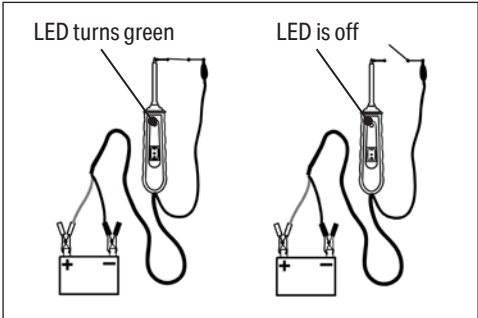

Fig.3
6.3 Continuity Testing (Fig.3)